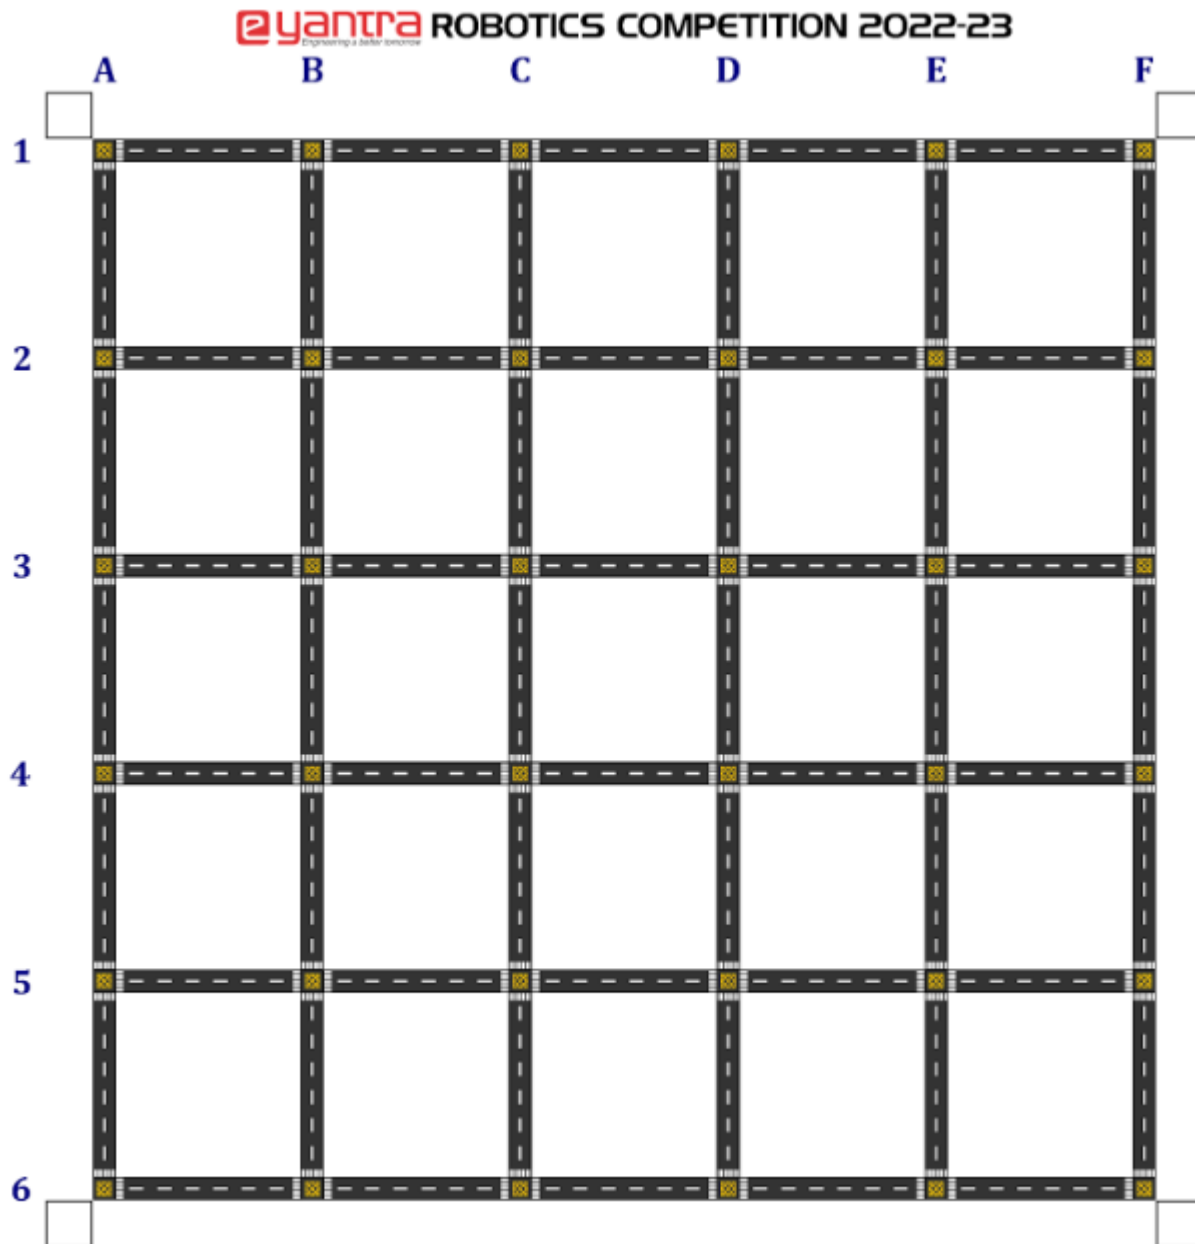

Figure 6: Arena Design
- The arena which is already printed (in Task 3) will be used for all theme runs. Image of the arena that was given for printing is shown in Figure 6.